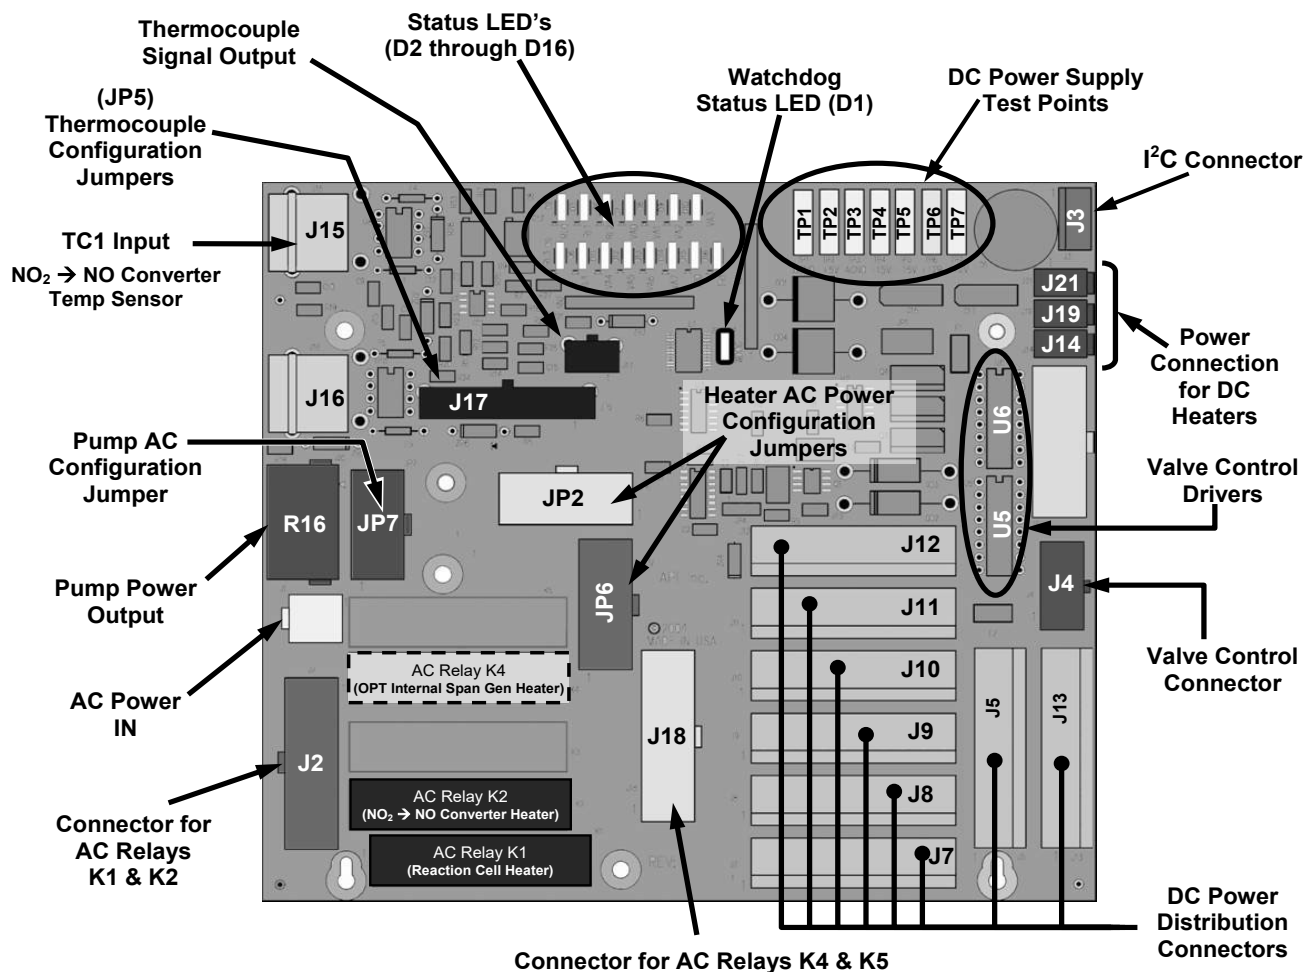

Figure 6-13. Relay PCA Layout (P/N 045230100)
The CPU issues commands via a series of relays and switches located on a separate printed circuit assembly, called the Relay PCA (Figure 6-13), to control the function of key electromechanical devices such as heaters and valves. The Relay PCA receives instructions in the form of digital signals over the I2C bus, interprets these digital instructions and activates its various switches and relays appropriately.
- TC2 (J16) is currently not used (see Figure 6-13 for location of J15 and J16).